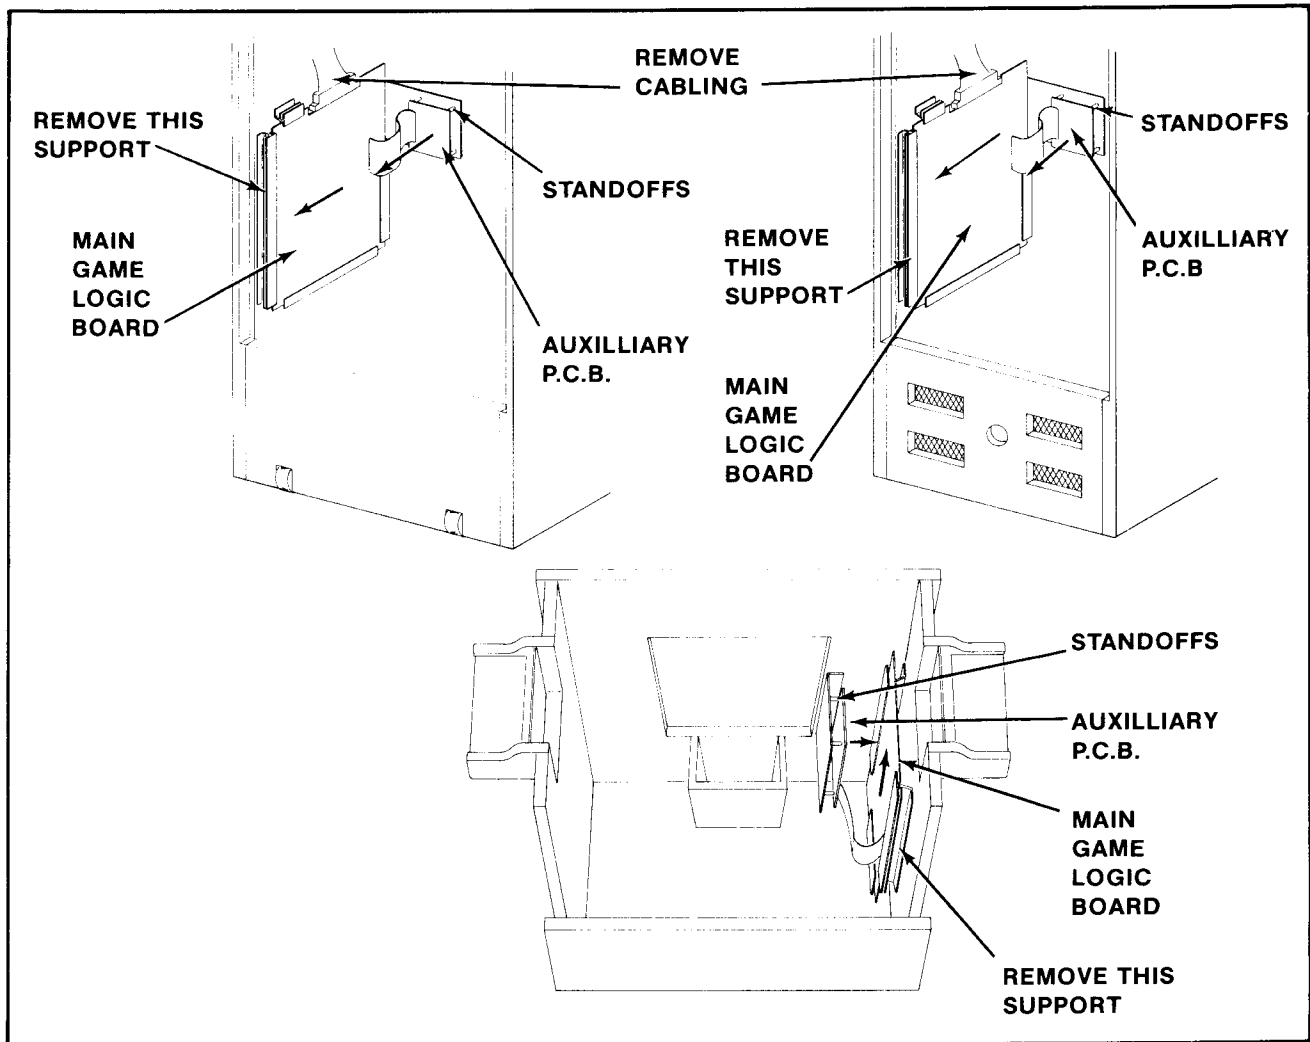

Figure 19 Removing printed circuit boards
### 1. UPRIGHT MODEL: See Figure 19.
- Remove the P.C.B. clamps indicated in Figure 19 and slide the Main Game Logic Board out the back of the cabinet.
### 2. MINI MODEL: See Figure 19.
### 3. COCKTAIL TABLE MODEL: See Figure 19.
- To remove the Main and Auxiliary Game Logic Boards. See Figure 19.
Remove the P.C.B. clamps indicated in Figure 19 and slide the Main Game Logic Board out of the cabinet.
**CAREFULLY** pop the Auxiliary Game Logic Board off its four snap-in mounting posts and lift it out of the cabinet. See Figure 19.